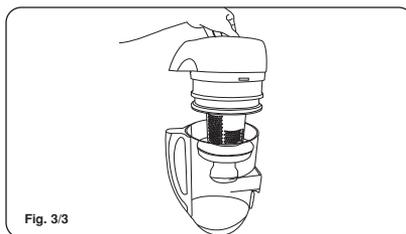

Fig. 3/3
- Filter screen of separation unit (Fig. 3/3) Thoroughly pre-cleans the air in the dust container.
- Protective motor filter (Fig. 3/4) is used to filter out the fine dust particles.